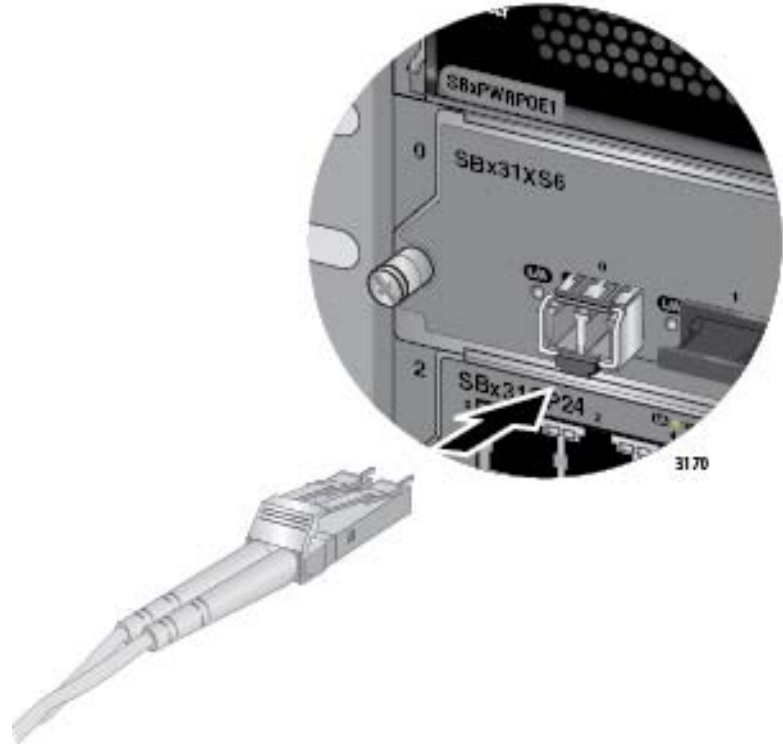

Figure 98. Attaching a Fiber Optic Cable to an SFP+ Transceiver in the AT-SBx31XS6 Line Card
5. Connect the fiber optic cable to the port on the transceiver, as shown in Figure 98 on page 157. The connector should snap into the port.